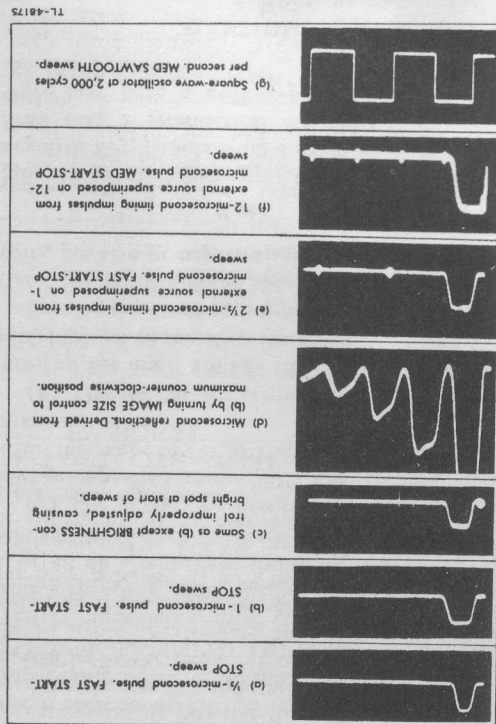

Figure 3-2. Images of Signal Pulses and Timing Waves
sharp and clear as possible. (See fig. 3-2.)
(16) The pulse image may be widened or contracted as needed by adjusting the sweep speed controls. If the entire pulse is not visible, the sweep speed should be decreased.
(17) With the "POSITION CONTROLS," place the beginning of the pulse about the middle of the left side of the screen and adjust the vertical position of the luminous horizontal base or zero line until it coincides with the middle engraved reference line across the screen. The engraved reference line should appear in the middle of the luminous base line.
(18) Adjust the "IMAGE SIZE" control until the top of the pulse coincides with the upper engraved reference line (lower engraved line if the pulse is inverted). The image of the pulse then has an amplitude of 1/4 inch which should be used as the standard reference deflection for voltage or power measurements. (See fig. 3-2.)
a. DURATION LESS THAN 8 MICRORSECONDS. (1) Turn the "IMAGE SIZE" control to its extreme counterclockwise (largest image) position which mismatches the impedance at the output of the delay network.
(2) Apply a steep wave front pulse to the "SIGNATURE INPUT." Reflections of this pulse, which occur at the ends of the delay network, cause a series of damped voltage oscillations with 1-microrsecond intervals between peaks or discontinuities. An image, such as (d) of figure 3-2, for a 1-microrsecond pulse input appears on the oscilloscope screen. The exact form of image depends upon the sweep speed and character of pulse. For convenience, it may be desirable to adjust the "FINE SWEEP SPEED" control until an integral number of oscillations appear on the screen.